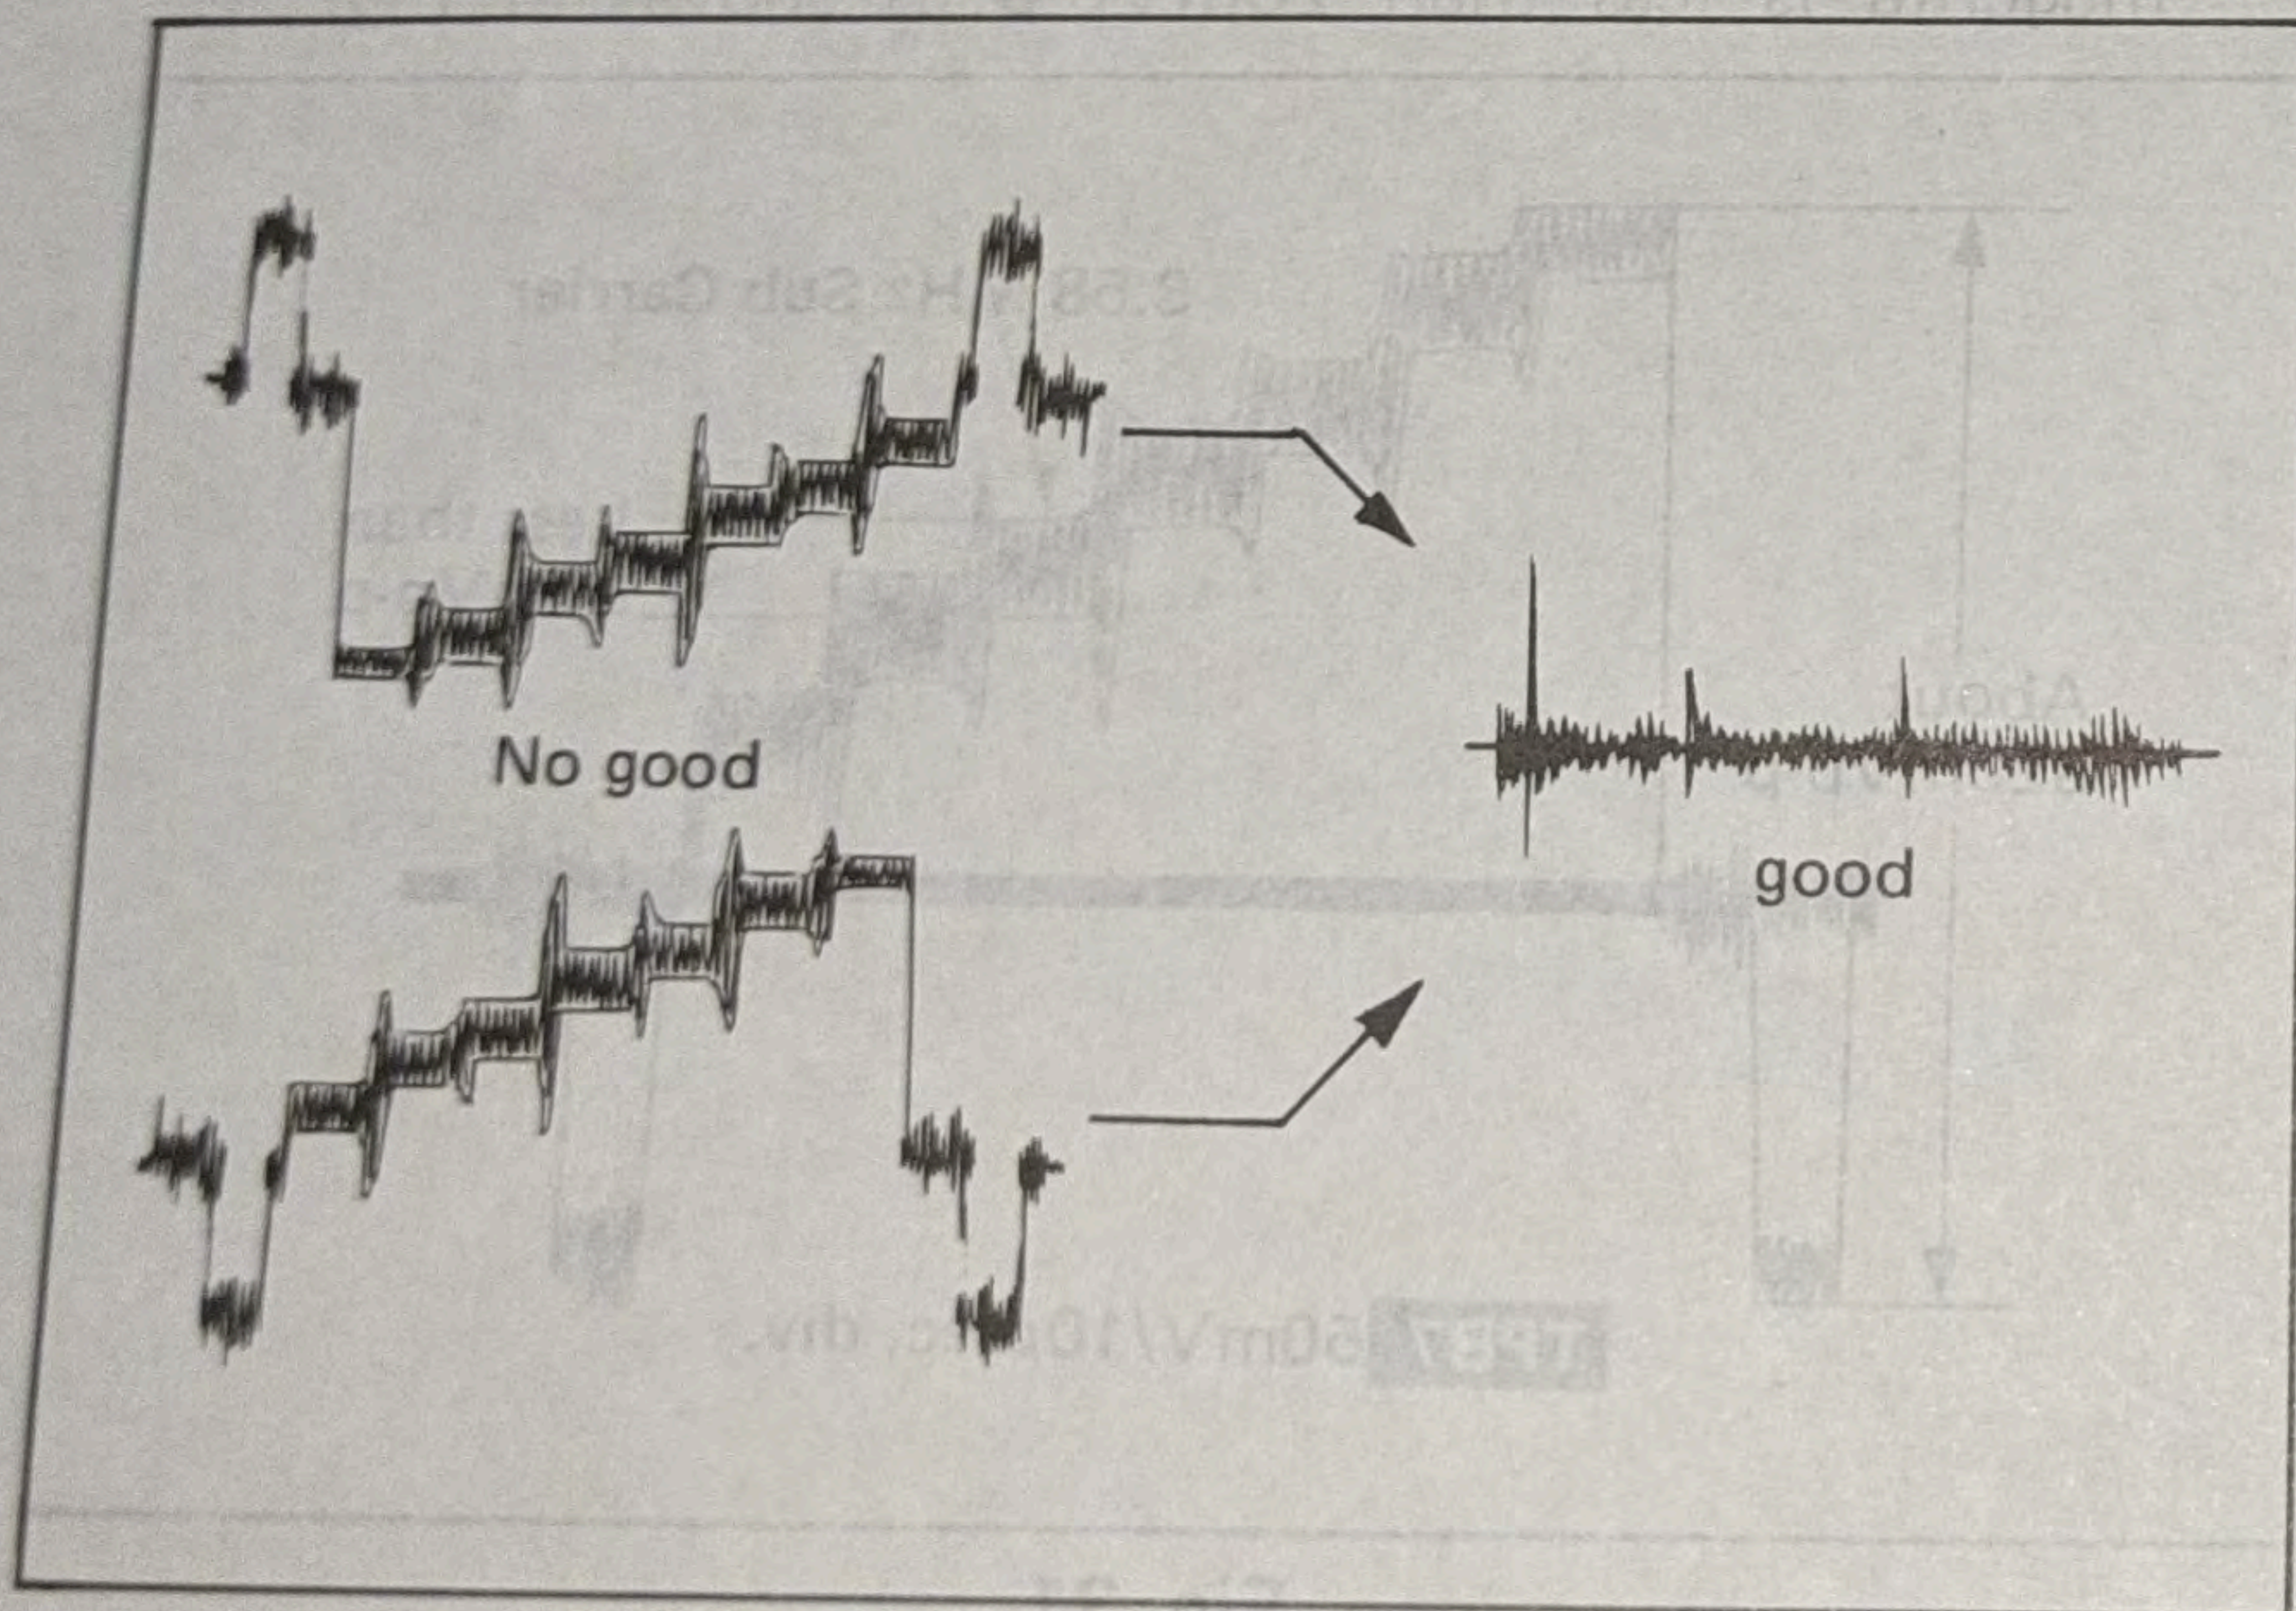

Fig. 33
4. Adjust R326 (APERTURE Balance) so that the waveform **TPB8** becomes as shown in Fig. 33.